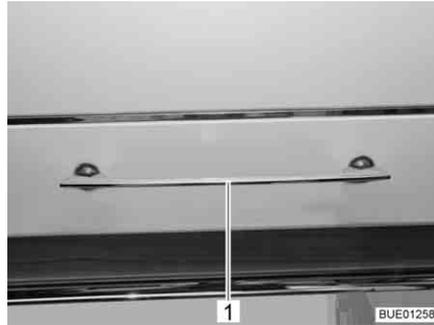
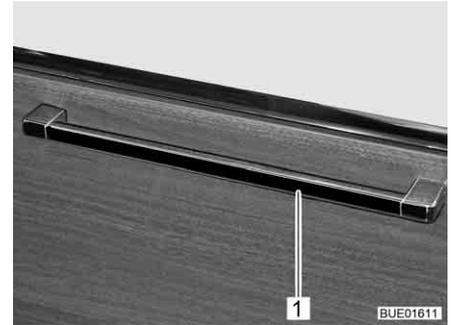

Fig. 83 Furniture flap with release handle
Fig. 84 Furniture flap with release handle (alternative)
- Press the release handle (Fig. 83,1 or Fig. 84,1) upwards, to the side or downwards depending on the fitted position and hold it down.